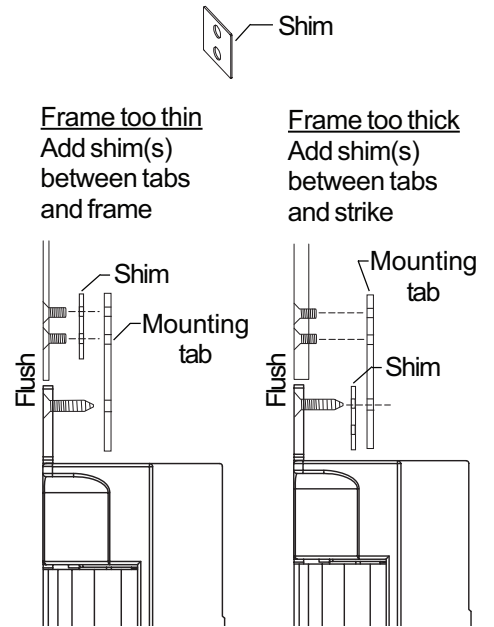

Figure 8
10. If frame does not have built in mounting tabs, install mounting tabs supplied with strike as shown below (Figure 8).